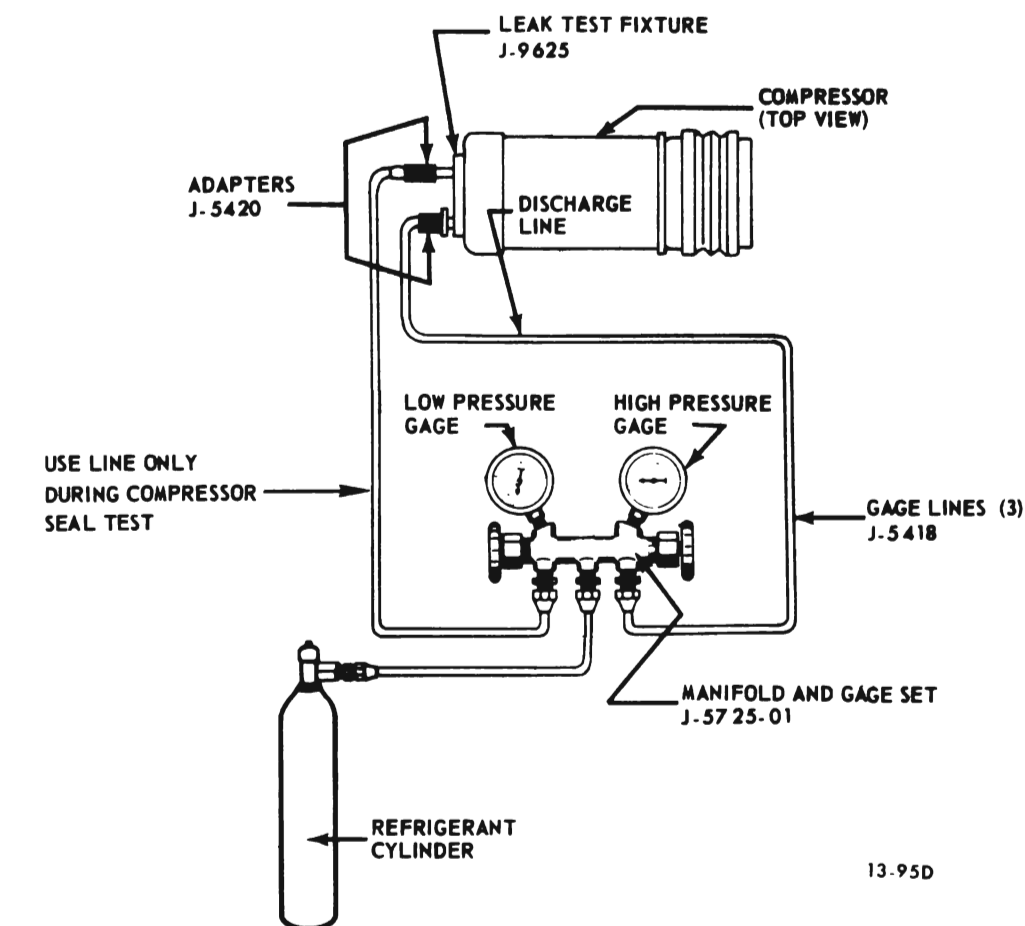

Figure 13-69 Leak Testing Shaft Seal and Seal Seat 'O' Ring
6. Install Compressor Leak Test Fixture (J-9625) on rear head of compressor and connect gage charging lines as shown in Figure 13-69. Pressurize suction side of compressor